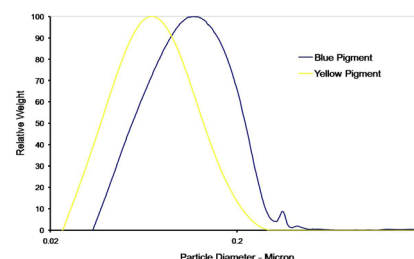

Fig.18
- Inkjet inks. Fig. 18 shows two overlaid particle size distributions on yellow and blue inkjet pigments. Note the small resolved peak on the leading edge of the blue pigment which could be significant regards possible jet clogging problems.